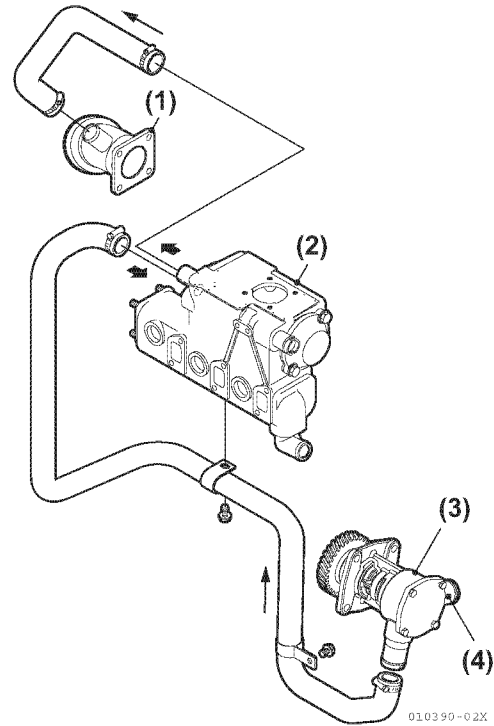

Figure 5-176
- For 3JH4 install the seawater pipes with the hose clips (**Figure 5-176**).